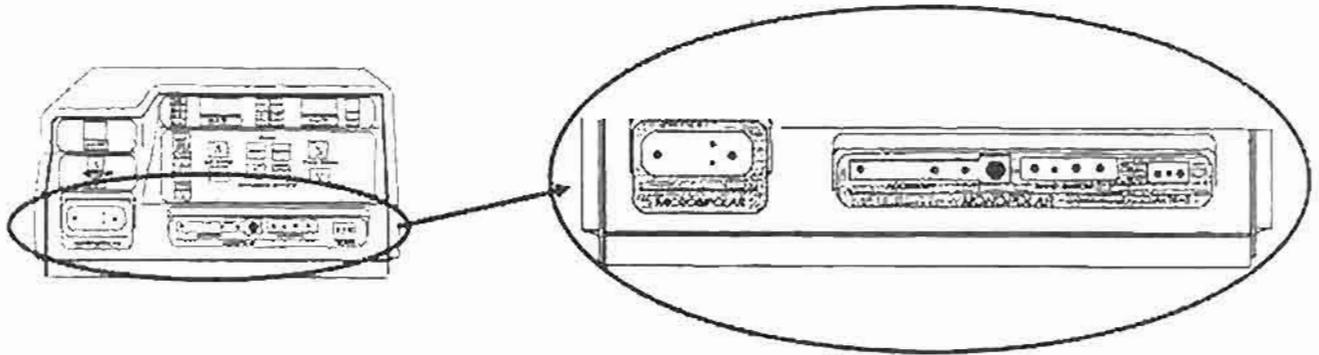

Figure 2-6. Front panel receptacles.
(6) *Receptacles section (fig 2-6).*